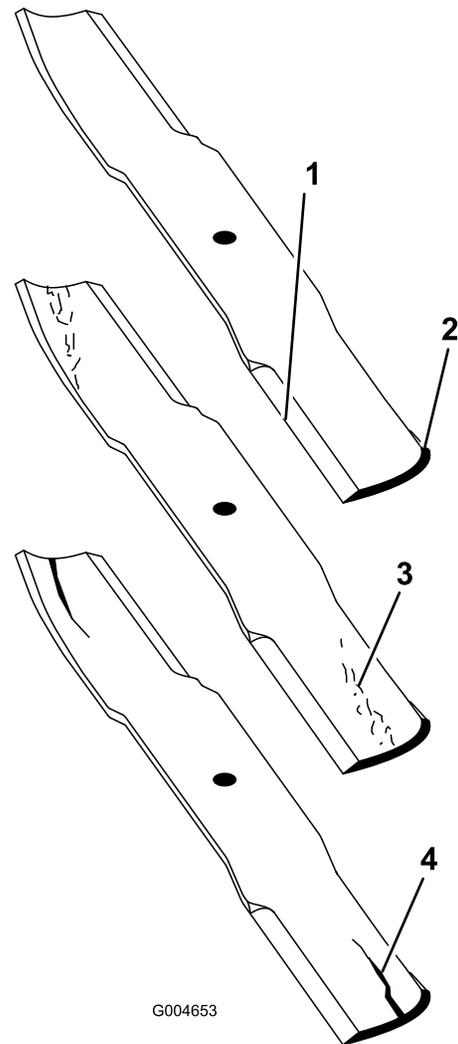

Figure 86
2. Examine the cutting ends of the blade carefully, especially where the flat and curved parts of the blade meet (Figure 86).
Note: Because sand and abrasive material can wear away the metal that connects the flat and curved parts of the blade, check the blade before using the mower. If the blade is worn (Figure 86), replace it.